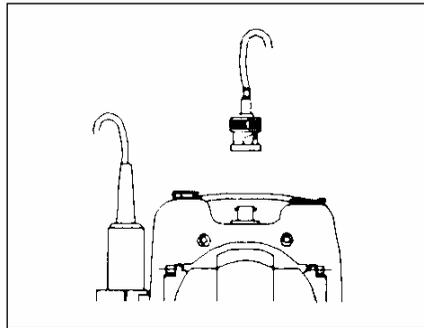

Figure 6: Connect pH or ORP electrode using BNC
3. Slide the BNC connector of the probe over (Figure 6).